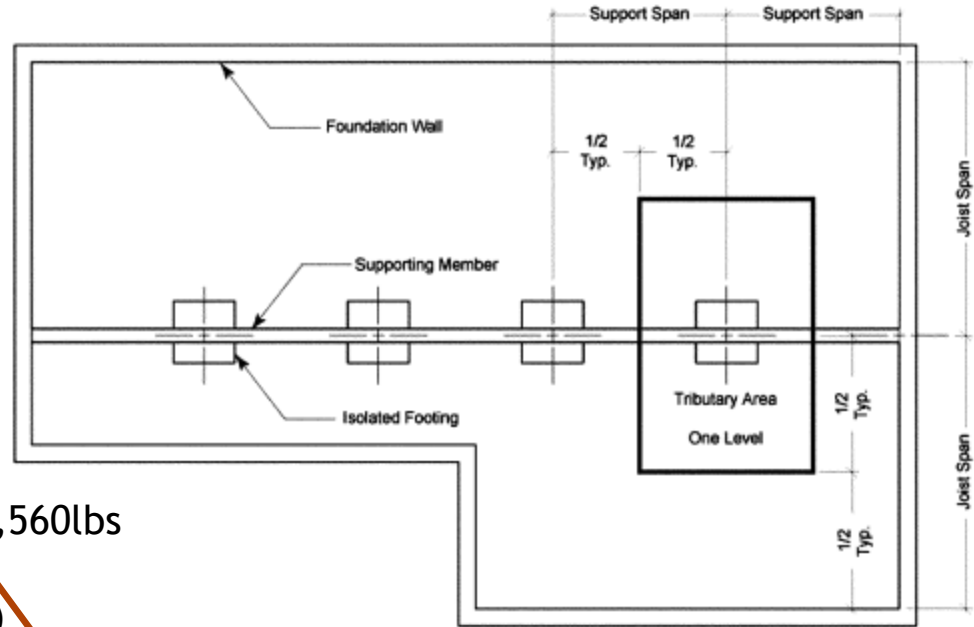

Fig. R6.1—Tributary area for isolated footing.
- SPS 321.15(2) Size and Type
- R6.2.2 The tributary area supported by an isolated footing is shown in Fig. R6.1. Isolated footings are also referred to as pier or column footing